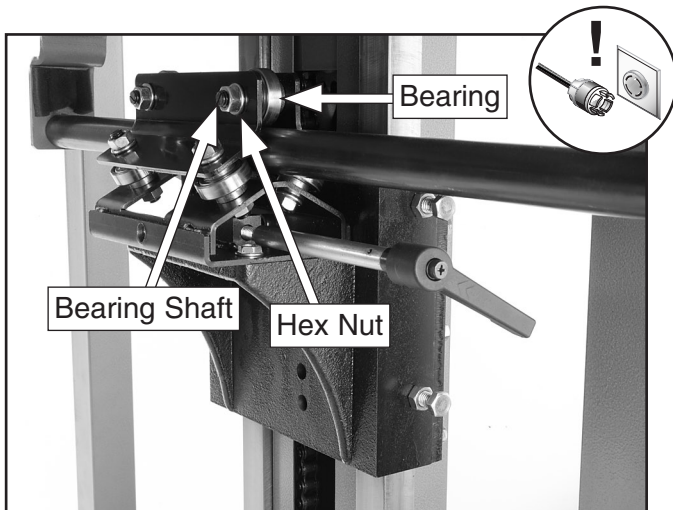

Figure 58. Table bearing adjustment.
1. Loosen the hex nuts on each end of the bearing shafts. It is not necessary to fully remove them (**Figure 58**).